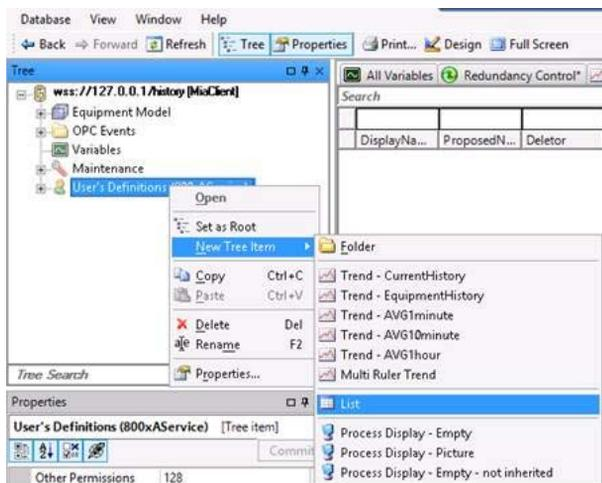

Figure 221. Vtrn Tag Deletion
2. Right click on **User's Definitions (800xAService)**, select **New Tree Item-> List** as shown in Figure 221 and name the table as “TagsDeleted”.